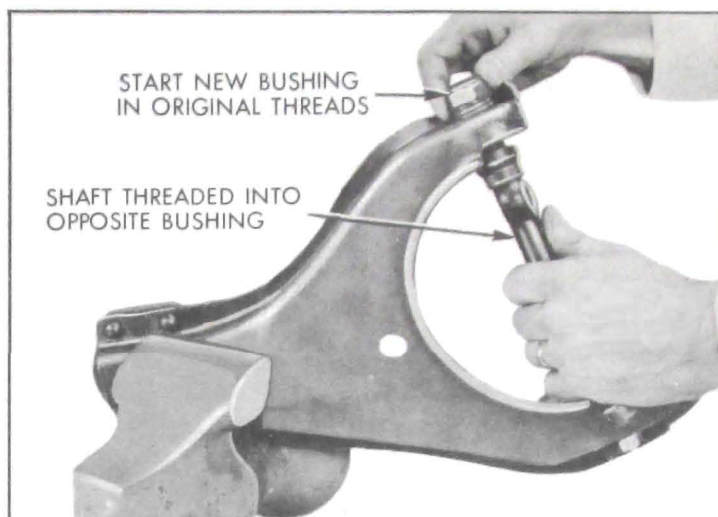

Figure 7-11—Upper Control Arm Bushing Replacement
5. Start second bushing into original threads of arm with shaft threaded into opposite bushing. See Fig. 7-11.